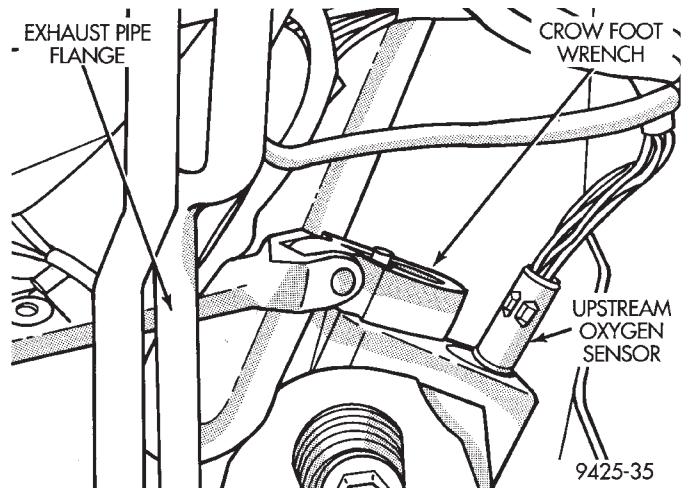

Fig. 79 Upstream Heated Oxygen Sensor Removal/Installation
- (1) Raise and support vehicle.
- (2) Disconnect electrical connector from sensor.
(3) Remove sensor using an oxygen sensor crow foot wrench such as Snap-On tool YA8875 or equivalent (Fig. 79).